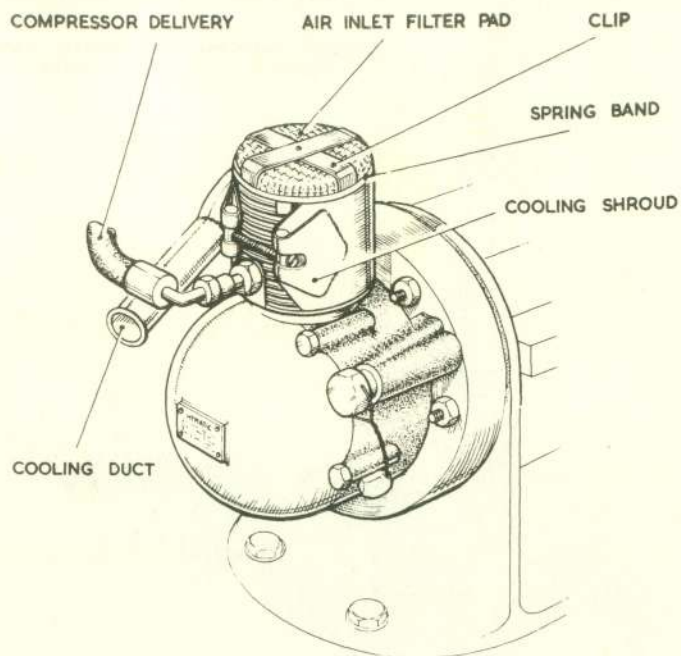

Fig. 2 Installation of compressor
(1) Compressor: The oil inlet filter screw should be removed periodically and the gauze filter cleaned or renewed if necessary. The air inlet valve gauze and the air inlet filter pad (fig. 2) should be examined periodically, the latter being renewed when necessary.